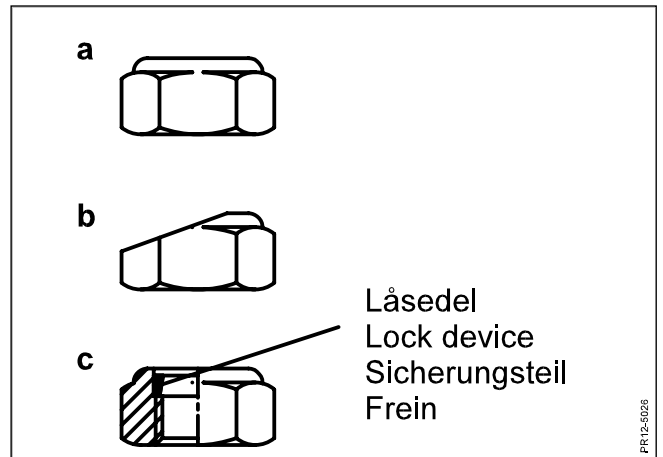

Fig. 5-7
- Fig. 5-7 The special nut must be replaced if: